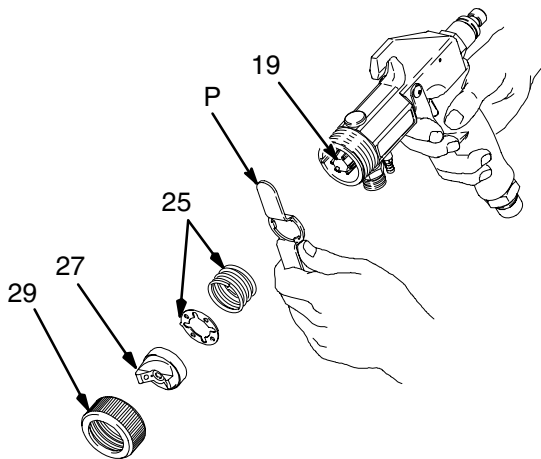
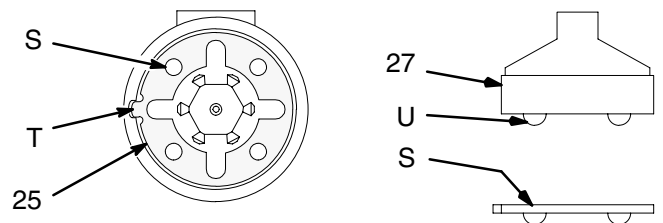

Fig. 22
Fig. 24
9. Trigger gun while installing fluid nozzle (19) with nozzle wrench (P). See Fig. 22.
10. Install spring (25) into front of gun.
11. Install detent plate (25) into gun housing with open sockets (S) facing up; align detent plate tab (T) with notch in gun housing. See Fig. 24.
12. Install air cap (27), aligning air cap balls (U) with detent plate sockets (S). See Fig. 24. Secure air cap with air cap retaining ring (29).